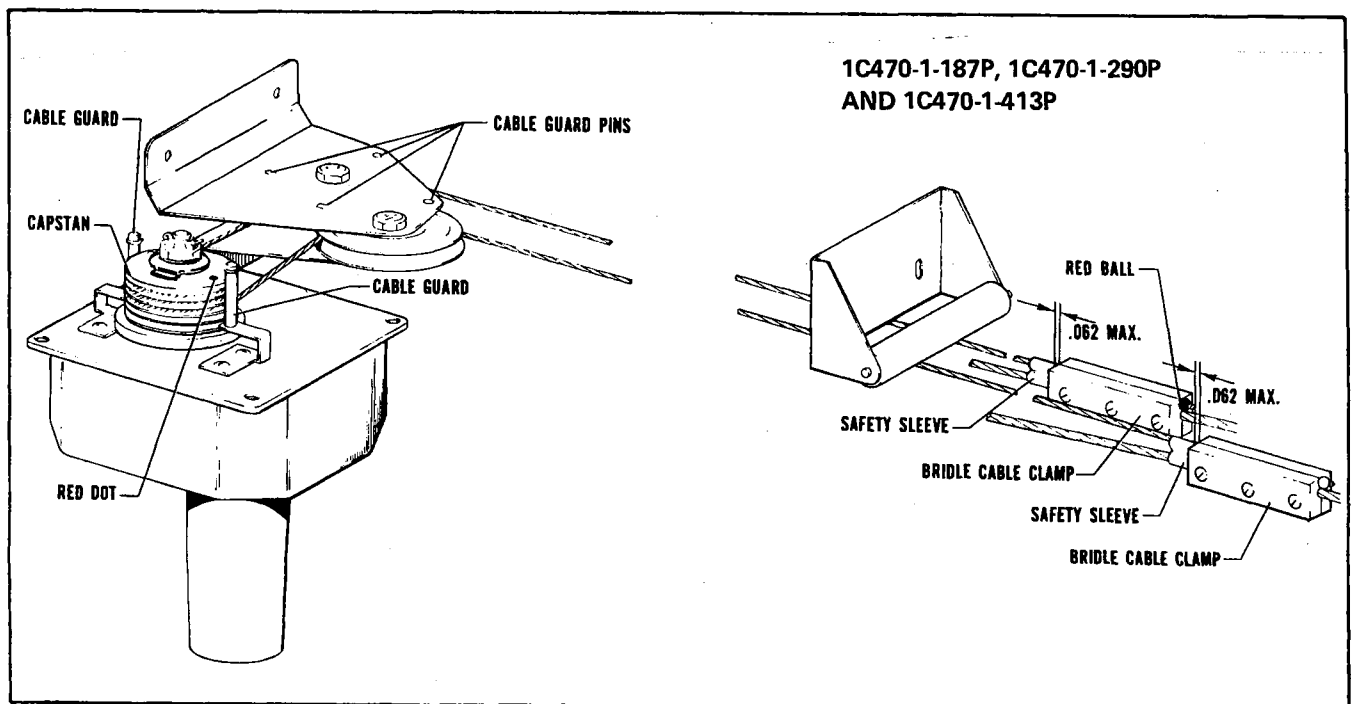

Figure 3-28. Pitch Servo Installation, PA-31, PA-31-350 and PA-31P
3-53. INSTALLATION OF PITCH SERVO. (PA-31, PA-31-350 and PA-31P.) (Refer to Figure 3-28.)
- g. REFER TO FIGURE 3-14 AND CHECK THAT CONTROL CABLE TENSION (X) IS ADJUSTED TO 25 ± 2 POUNDS PRIOR TO ATTACHING THE BRIDLE CABLE CLAMPS. Ascertain area on cable where clamp attaches is clean, dry and free of all lubricants and anti-corrosive additives. Attach the bridle cable to the elevator control cables. The bridle cable is drawn around pulleys to the elevator control cables and attached with clamps at the previously painted locations on the control cables. The end of the bridle cable with the red ball attaches to the right elevator cable. (Refer to Figure 3-28.) (Should the elevator cable not be painted, position the elevator in neutral and the bridle cable pin, installed in the capstan, with the red dot aligned as shown in Figure 3-28.) Adjust the bridle cable clamps so that the bridle cable tension (Y) as shown in Figure 3-14 is 9 ± 1 pounds. Check the control cable tension forward of the bridle cable clamps and adjust, if necessary, to obtain 25 ± 2 pounds. If the control cables require adjustment, it will be necessary to readjust the bridle cable tension to 9 ± 1 pounds. Torque the bridle cable clamp screw to 15 ± 1 inch-pounds.